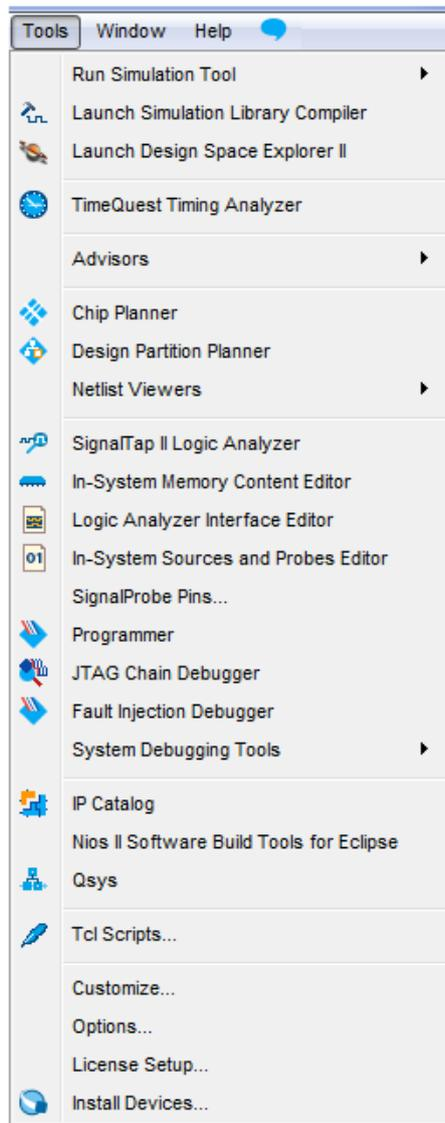

Figure 3-8 Tools Icon
2. Tools > Click IP Catalog (see Figure 3-8).